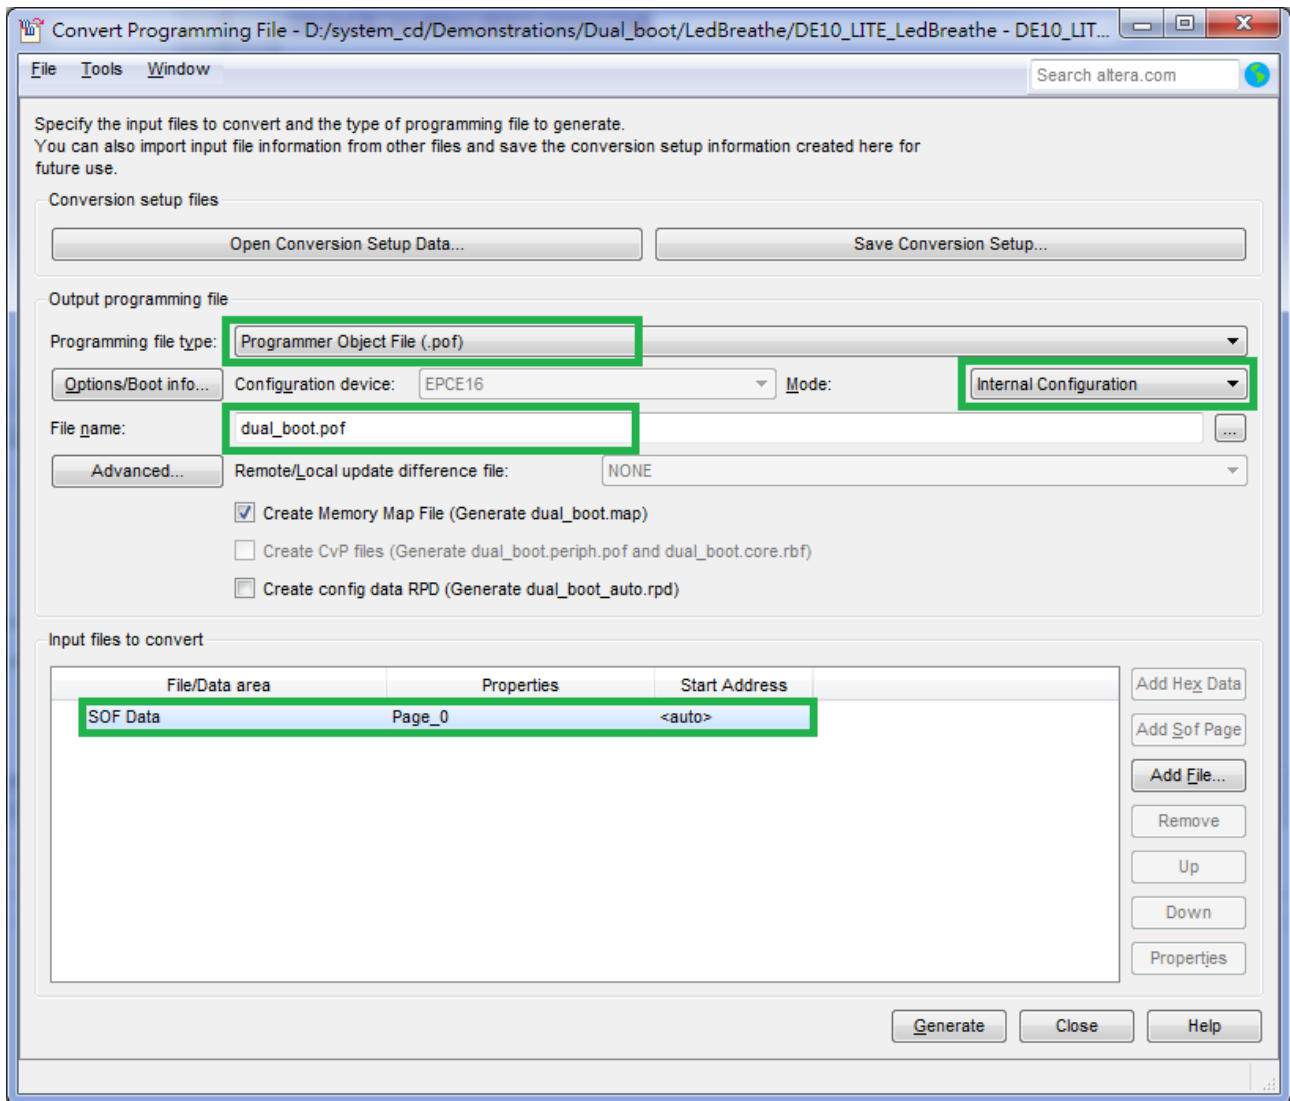

Figure 6-14 Dialog of Convert Programming Files and setting
5. Click on the **SOF data** in the section of **Input files to convert**, as shown in **Figure 6-14**.